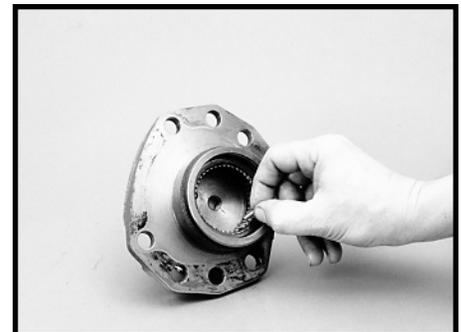

Figure 138
32. Apply a generous amount of clean wheel grease (do not substitute another type of grease) to the bearing race or caged bearing assembly inside the side cover (56).
33. If the side cover does not have a caged bearing assembly, assemble 41 or 42 rolls into the side cover bearing race. Grease must retain rolls. SEE FIGURE 138.